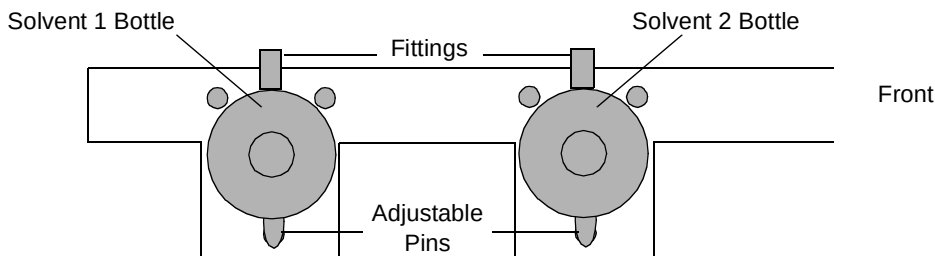

Figure 2-13 Adjusting the Solvent Bottle Pins (Top View)
7. Place the solvent bottles onto their holders and attach the tubing and fittings. If needed, you can loosen the adjustable pin and move it in or out to hold each bottle firmly (Figure 2-13).